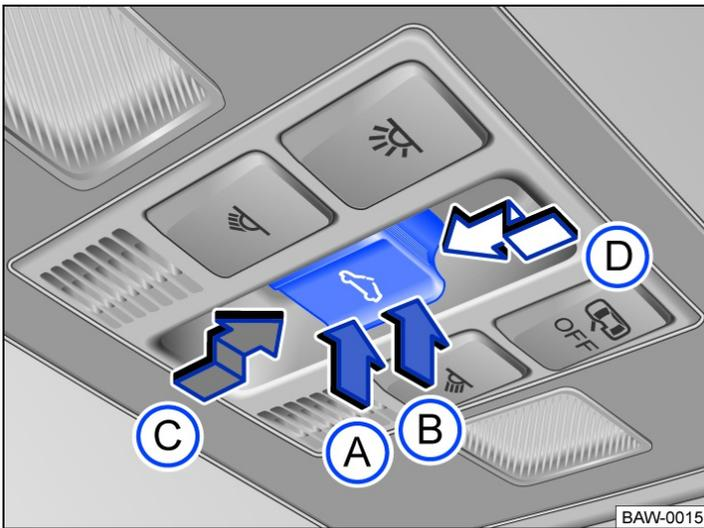

Fig. 1 In the roof: button for the glass roof.
- *Tilting the glass roof:* push the button → Fig. 1  to the first position. One-touch function: push button  to the second position.